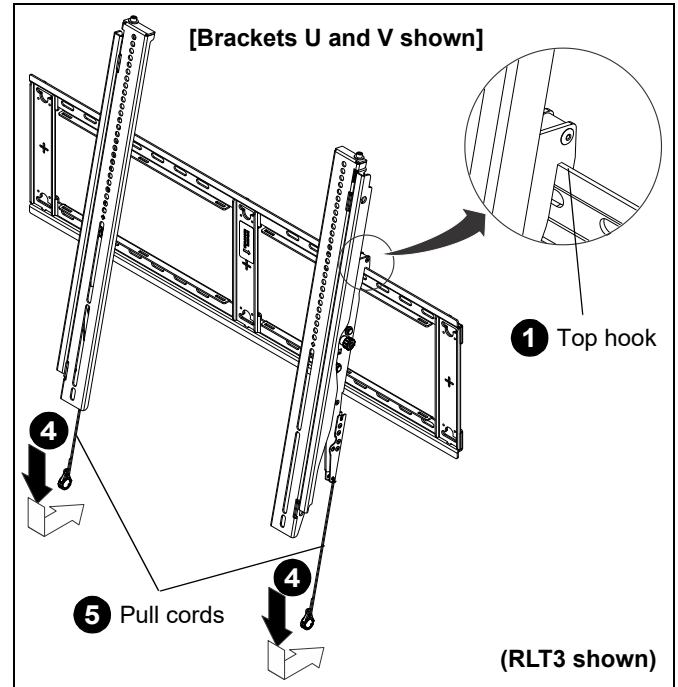

Figure 14
1. Hang screen onto the top rail of the mount (W/X). (See Figure 14)
- **RMF3/RLF3:** Hang top hook of interface brackets (S and T) onto the top rail of the mount (W/X). (See Figure 14)
- **RMT3/RLT3:** Hang top hook of interface brackets (U and V) onto the top rail of the mount (W/X). (See Figure 14)
4. Pull downward on the pull cords and swing inward toward wall, latching interface brackets to lower rail and fastening bottom of screen to the mount. (See Figure 14)
5. Attach end of pull cord (a magnet) to mount so it does not extend beyond bottom of screen. (See Figure 14)